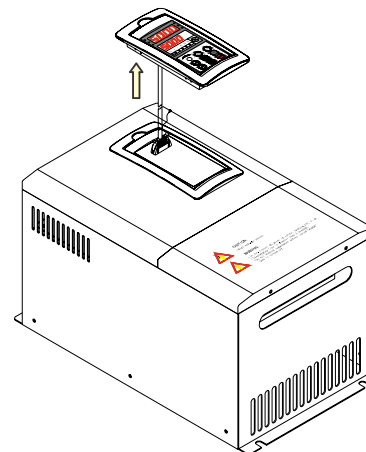

Fig. 3-15 Mounting Diagram for the operator panel and connecting wire of the inverter Model B
Step 4. Fix and fasten the dismantled operator panel, and put the other end of connecting wire into the socket of operator panel (as shown in the figure 3-15).